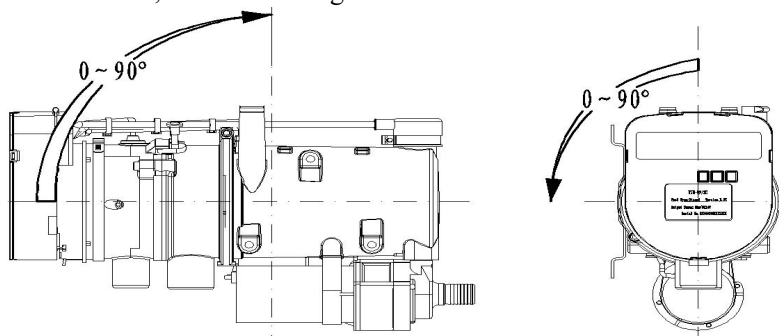

Fig. 7
4.2.3 Choice of position for installation of the main equipment shall keep the air from the water pipe discharge normally. It is allowed to incline to suit different arrangements for installation, but deviation from the “normal installation position” shall not exceed 90° , as shown in Fig. 7.